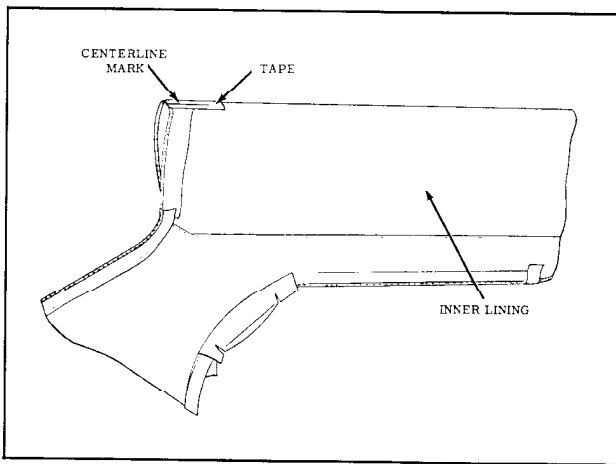

Fig. 17-141 Centerline of Top Material
- 23. Fold new top material in half so that inner lining of top material is exposed. (Fig. 17-141) Install a 6" piece of tape on inner surface at centerline fold of new top material. (Fig. 17-141) Using a pencil, mark the approximate